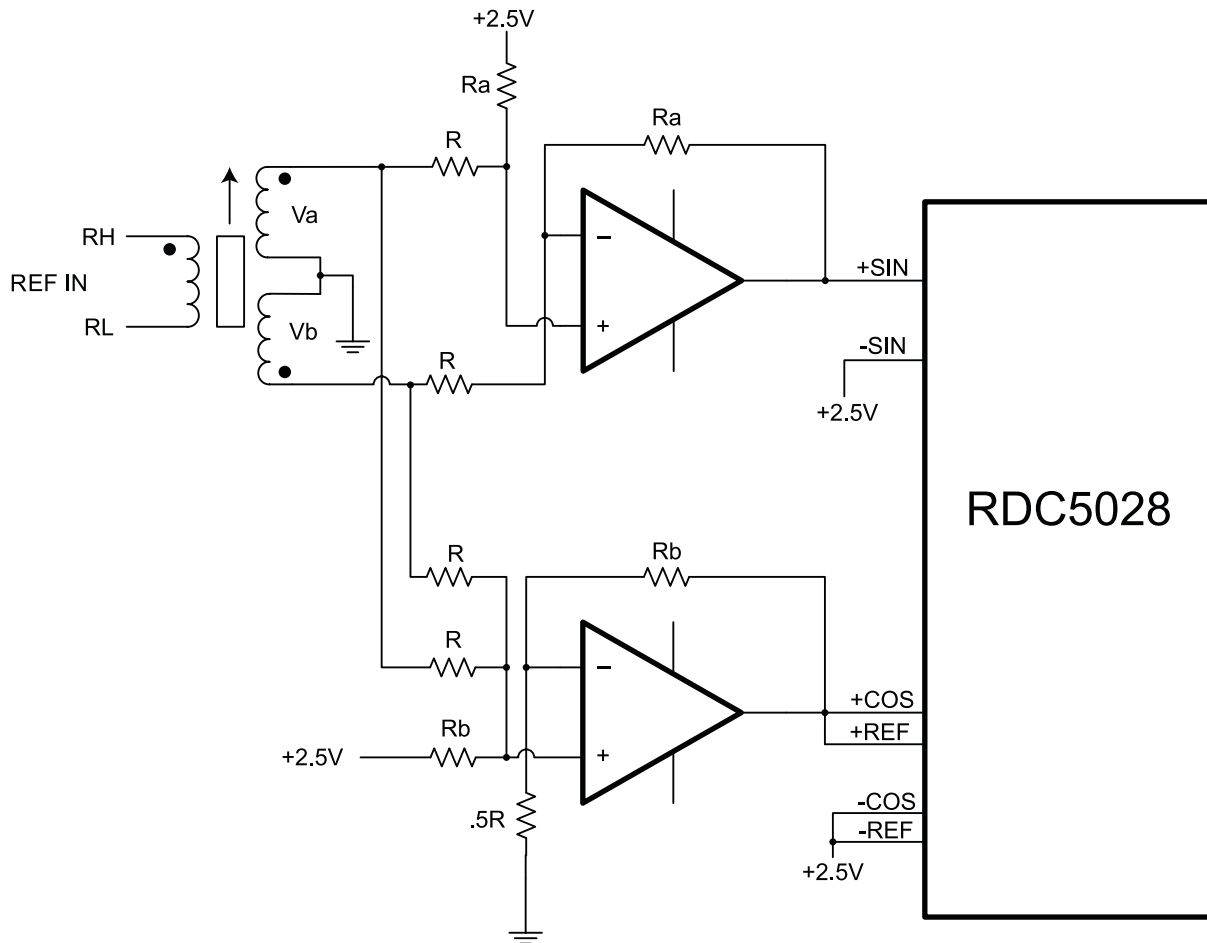

Figure 2 – Three Wire LVDT CT Grounded
1. Figure 2 utilizes a three wire LVDT with the center tap grounded.
Example for Figure 2